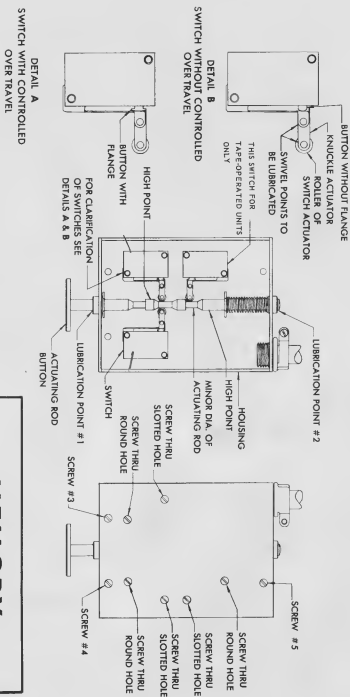

FIGURE 12
Step 3—THE MEMORY TRANSFER UNIT: (See Fig. 12). The trouble may lie in the maladjustment of the Switches in the Memory Transfer Housing either due to the accidental hitting of the Housing or through some other cause, such as lack of lubrication (see page 2). Remove the Memory Transfer Housing from the keyboard by unscrewing (3), (4) and (5) screws. Then check the adjustment of the Switches as follows: